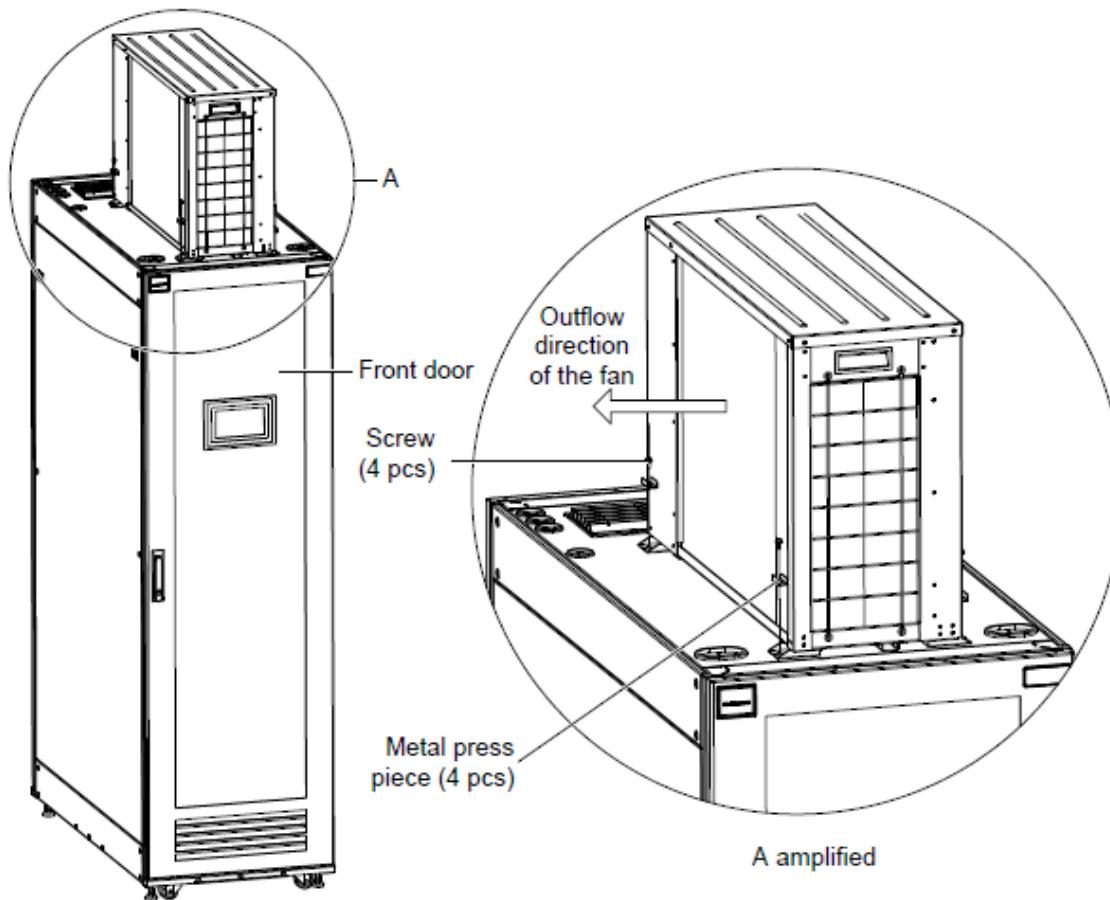

Figure 2-23 Installing the outdoor unit on top of the cabinet
1. Lift the outdoor unit removed from the cabinet on to the top of the cabinet. Refer to Figure 2-23 for the installation direction of the AC outdoor unit.
3. Place the metal press pieces on the foot stands and use 4 screws to fix the AC outdoor unit on the top plate of the cabinet. The entire illustration of the installation at the top of the cabinet is shown in Figure 2-23.